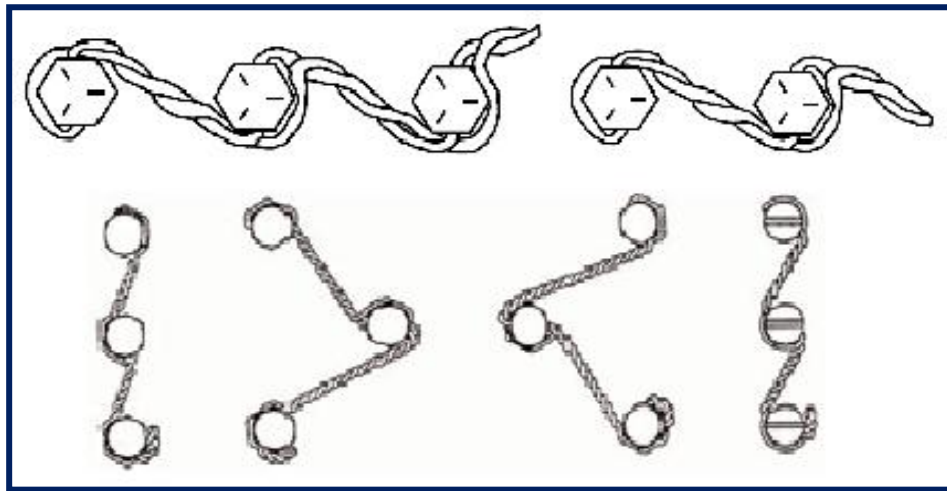

Figure 1: Safety Wire / Lock Wire
- a) No more than three (3) bolts may be tied together.
- b) Bolt heads may be tied as shown only when the female thread receiver is captive.(see figure 1)
3.3.1 The method involves threading a wire through holes in the fastener to lock it against being rotated loose. The wire is twisted before being threaded and is locked to next bolt. Safety wire should be placed in and around bolt head to maintain the pre-load. The use of safety wire ties is illustrated in figure 1 above. The illustrations assume the use of right-hand threaded fasteners.
- When the multiple fasteners are from 4-6 inches apart, three (3) fasteners shall be the maximum number in a series that can be safety wired together.
- When the multiple fasteners are spaced more than 6 inches apart, the multiple fastener application specified in Figure 1 shall not be used unless tie points are provided on adjacent parts to shorten the span of the wire to less than 6 inches.
- d) The strands, while taut, shall be twisted until the twisted part is just short of the nearest hole in the next bolt. The twisted portion shall be within 1/8" of the holes in each bolt as shown in figure 1 above.